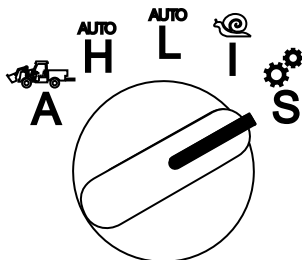

Figure 18
1. Rotate the operation-mode selector to the **S** position (Figure 18).